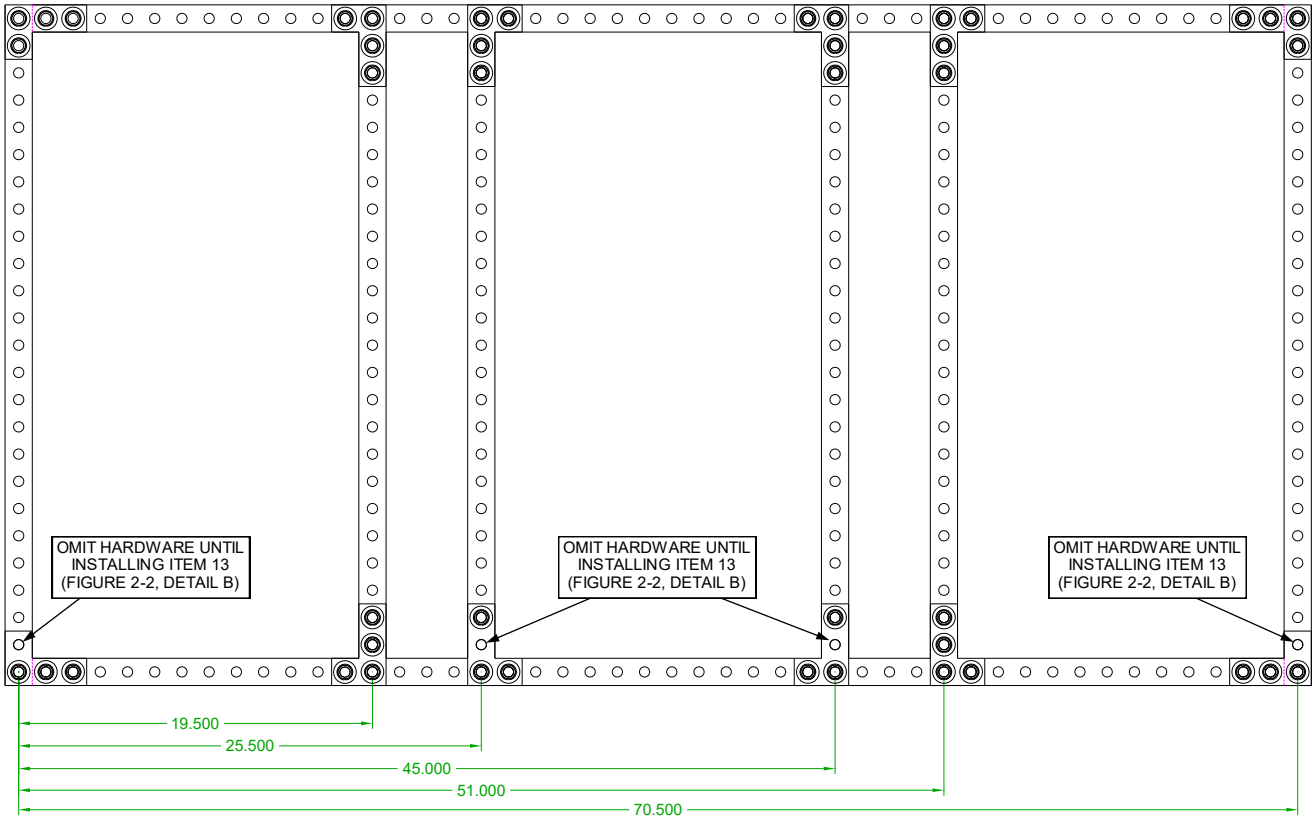
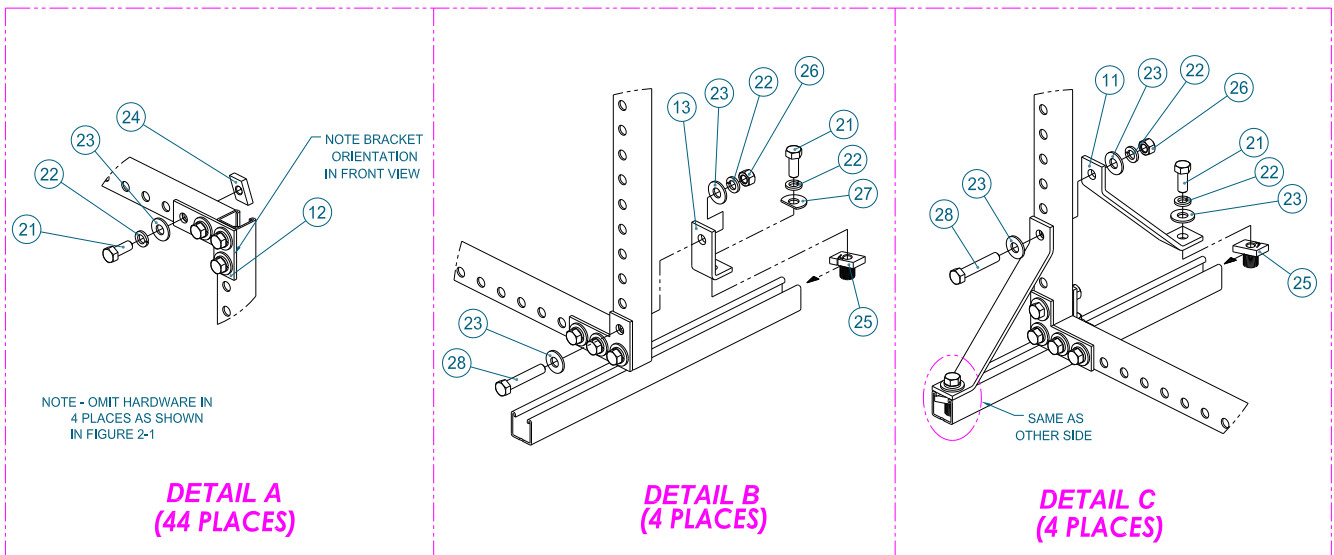
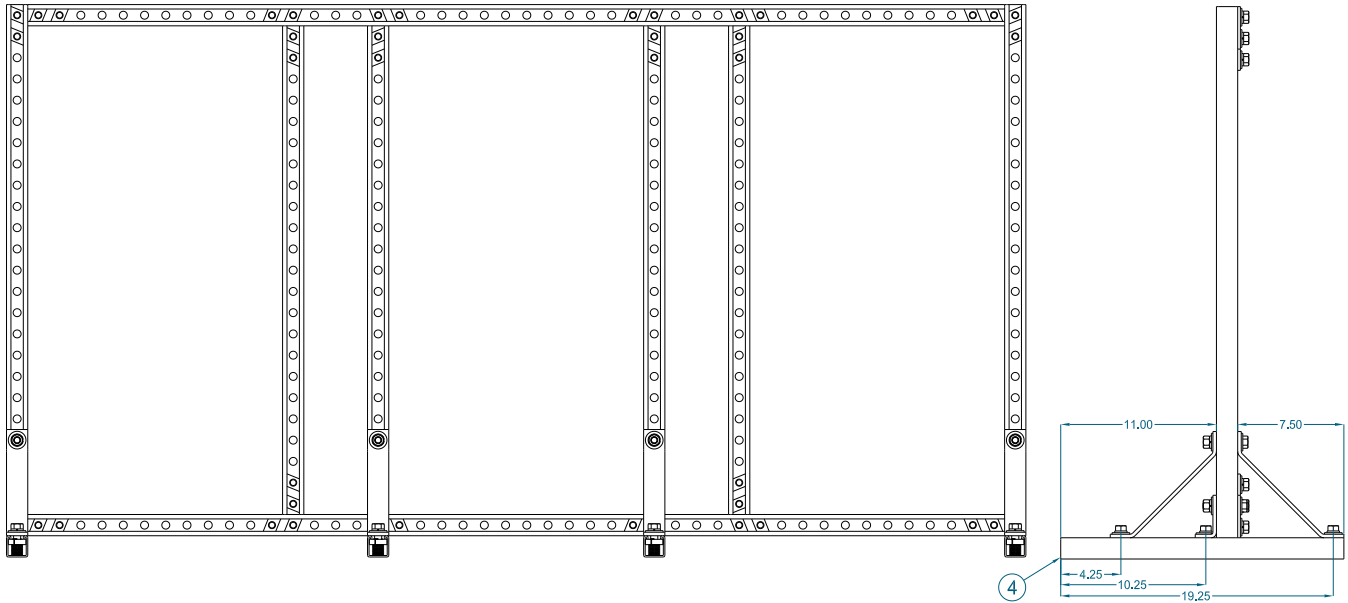

Figure 2-1: Uni-Strut Assembly
Figure 2-2: Uni-Strut Assembly, Hardware Placement
Figure 2-3: Uni-Strut Assembly, Base Struts
Reference the parts list in **Table 2-1** and **Figure 2-1**, **Figure 2-2**, and **Figure 2-3** throughout the assembly of the mounting frame.
1. Arrange the uni-strut sections (Items 1, 2 and 3) as shown in **Figure 2-1**. Secure the 4-hole L-brackets (Item 12) on the flat side of the uni-strut as shown in **Figure 2-1**, and refer to **Figure 2-2, Detail A** for hardware placement.
2. Arrange the 20" sections of uni-strut (Item 4) as shown in **Figure 2-3**,
3. Secure the 2-hole angle connectors (Item 13) to the uni-strut base and frame as shown in **Figure 2-3**, and refer to **Figure 2-2, Detail B** for hardware placement.
4. Attach the corner braces (Item 11) to the uni-strut base and frame as shown in **Figure 2-3**, and refer to **Figure 2-2, Detail C** for hardware placement.